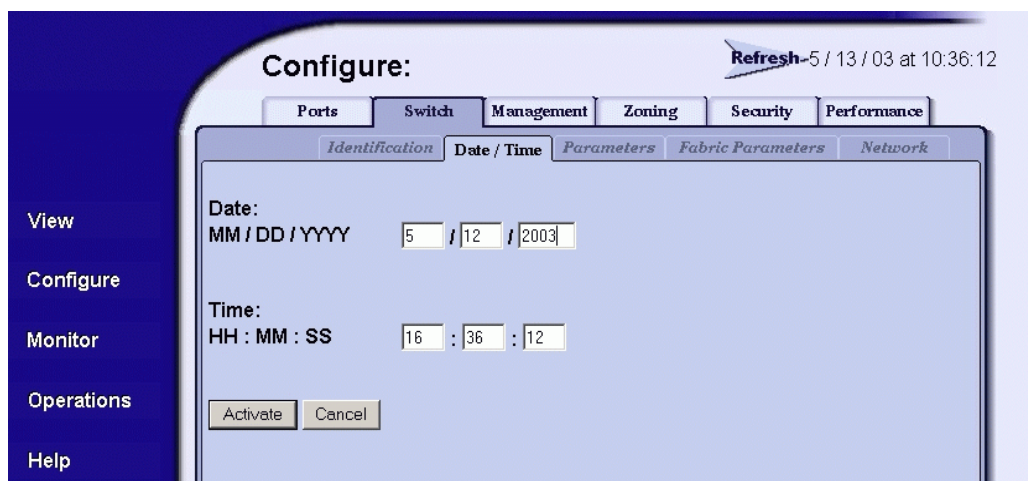

Figure 2-7 Configure Panel (Switch Page with Date/Time Tab)
1. At the *Configure* panel, click the *Date/Time* tab. The *Switch* page displays with the *Date/Time* tab selected (Figure 2-7).